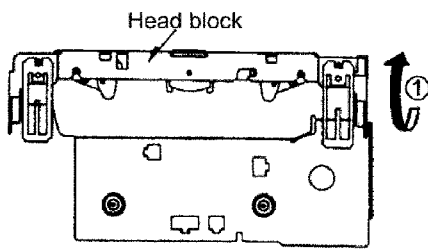
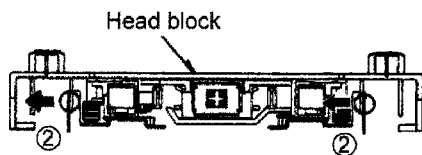

Fig.1
Fig.2
2. Remove the battery cover x 1. (Fig.1)
3. Remove the screws x 6. (Fig.2)
1. Remove the head block in the direction of arrow ① and ②. (See Fig.1 & Fig. 2)